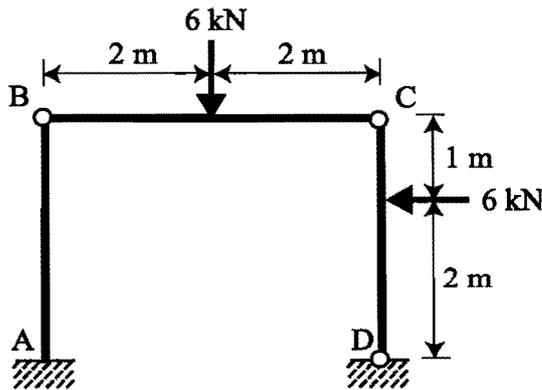

Figure 9
* 9. The plane frame shown in Figure 9 consists of three bars connected by frictionless pins at B, C and D. At A the vertical bar is built into the rigid base
(c) Repeat for the same structure, but now sustaining a horizontal force of 6 kN acting to the right on member AB at a height of 2 m above the base, in addition to all the loads shown in Figure 9.